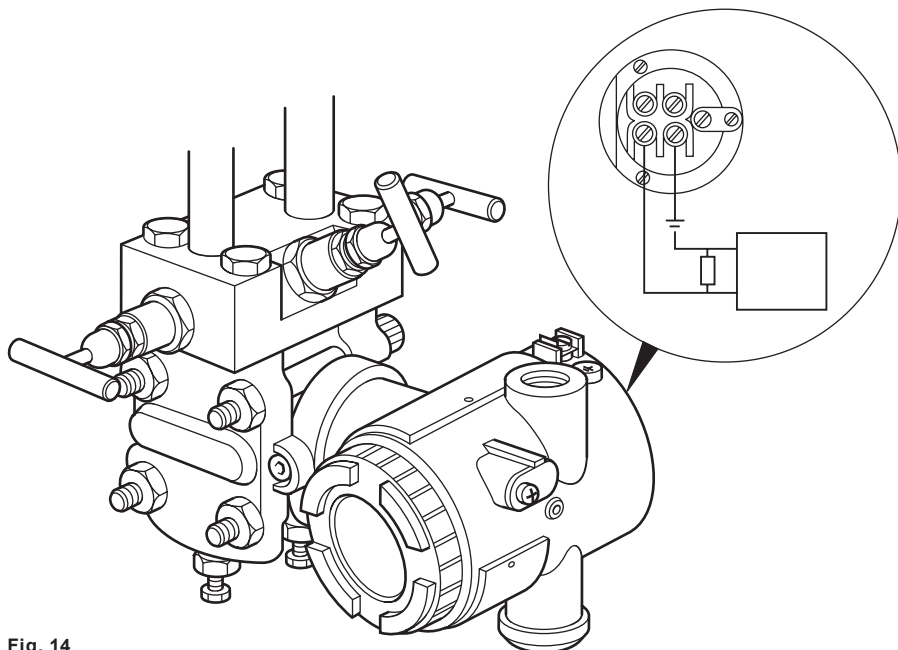

Fig. 14
- 7.2.4 Using a suitable milliammeter, check that the output of the DP transmitter is 4.00 mA across terminals CK+ and CK- as shown in Figure 14. (If a flow display is being used, it should read zero.) Set the mode switch (SW1) to the zero position and using the output adjuster on the M610 DP transmitter, adjust the zero output until a value of exactly 4.00 mA is achieved. See Figure 15.